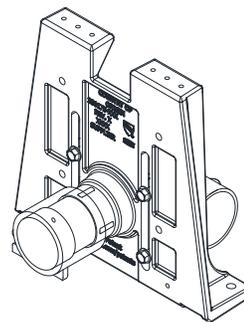

Figure 7b
- c. EZ-Set™ Coupling: Thread the coupling clockwise into the faceplate by hand until it engages the o-ring and begins to resist. Using a strap or pipe wrench, continue to turn the coupling into the o-ring to create a water-tight seal. Ensure the protective sleeve is flush with the test cap, See Figure 7b.